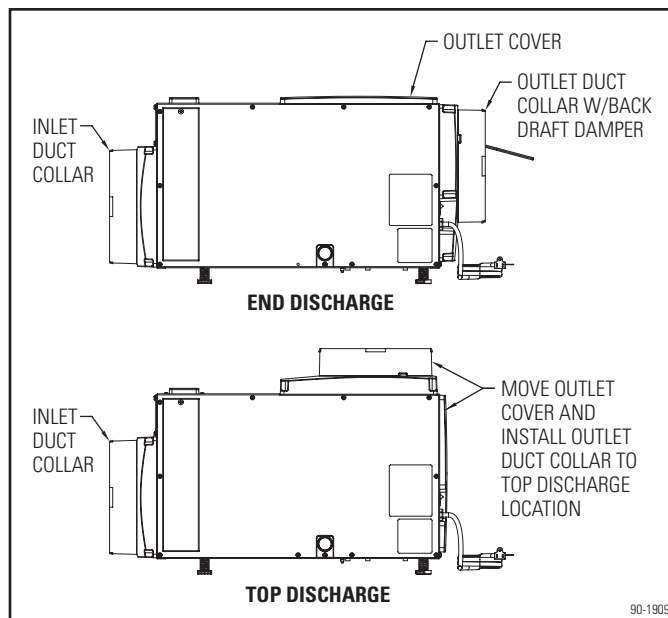

Figure 2. Fully Ducted Installations
- The outlet duct collar may be attached to the top or end of the unit. Move the outlet cover to the location not being used. See **Figure 2**.